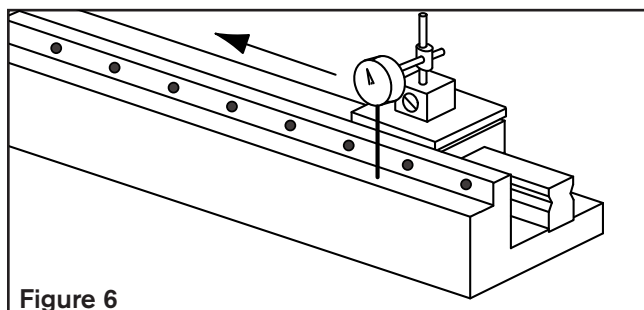

Figure 6
2. With the guiding system in place, mount a dial indicator on the carriage and measure the perpendicularity and parallelism variance on the two rack mounting surfaces by moving the carriage down the run and monitoring the dial indicator readings. Verify they meet or exceed specifications of ± 0.03 mm [± 0.001 in.] as shown in Figure 6. If variance is not within specifications, verify guiding system installation and correct if possible. Mark the location of the high point in the mounting surface the rack bottom sits on.